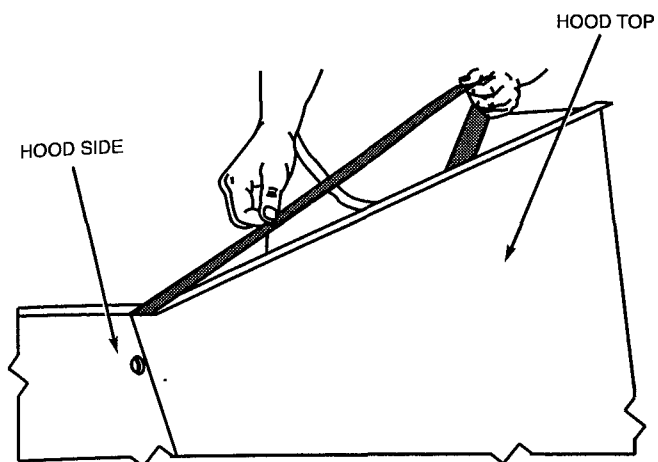

Fig. 23 — Adding Seal Strip to Hood Top Mounting Flange
5. Apply black seal strip (provided) to hood top mounting flange. Seal strip of hood top mounting flange must press tightly against seal strip of hood side mounting flanges. See Fig. 23.